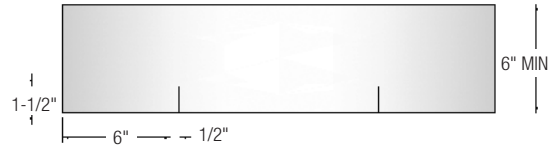

FIG. 7
- B) Measure the width of the rough opening. Cut a length of flashing that is 12" wider than the rough opening. This will allow you to run the flashing 6" up each side. (Fig. 7)
- C) Cut 1-1/2" slits at each end of the flashing as shown below. (Fig. 7)